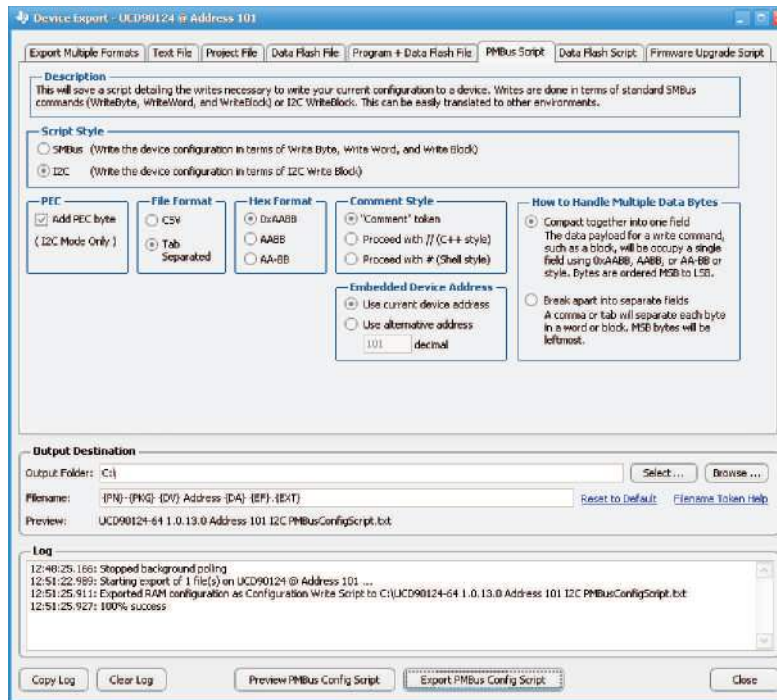

Figure 29. Fusion GUI PMBus Configuration Script Export Tool
2. The *Fusion GUI* (Figure 29) can create a PMBus or I2C command script file that can be used by the I2C master to configure the device.